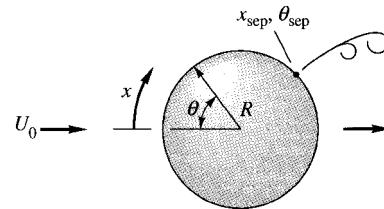

Fig. P7.50
**7.50** For flow past a cylinder of radius  $R$  as in Fig. P7.50, the theoretical inviscid velocity distribution along the surface is  $U = 2U_o \sin(x/R)$ , where  $U_o$  is the oncoming stream velocity and  $x$  is the arc length measured from the nose (Chap. 8). Compute the laminar separation point  $x_{\text{sep}}$  and  $\theta_{\text{sep}}$  by Thwaites' method, and compare with the digital-computer solution  $x_{\text{sep}}/R = 1.823$  ( $\theta_{\text{sep}} = 104.5^\circ$ ) given by R. M. Terrill in 1960.